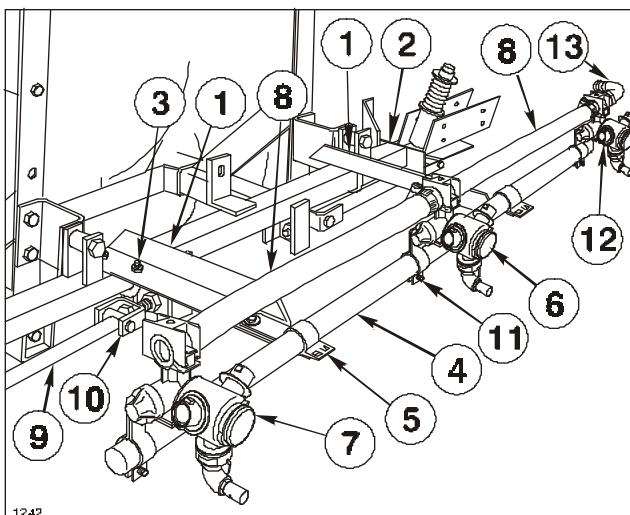

FIG. 14
7. Position the two (2) Center Boom angles on the Main Frame and secure them to the Main Frame tube with (2) square U-bolts, (4) flat washers and hex nuts. See FIG. 14.
8. Center and attach the Center Boom Pipe to the two Center Boom Angles with two (2) clamps, (2) 3/8" x 1" cap screws, flat washers and lock nuts. Once mounted, the Center Boom Pipe should be approx. 20" (508mm) from ground.
9. Loosely attach the Double Barb Turret Body with the Turret Body Clamp in the approximate center of the Center Boom Pipe. For the most uniform spray coverage, position all Nozzles level as shown in FIG. 14.
**11.** Place two Hose Clamps on two 3/4" x 19" Jumper Hoses and connect the two "end" Turret Bodies to the Double Barb Turret Body. Space nozzles 20" apart and tighten fasteners securely. Apply thread sealer and install the 90° 3/4" Hose Barb on the Threaded Turret Body. See FIG. 14.
**12.** Attach the two Strut Assemblies to the two adjustable clevis' found on each side of the Main Frame tube with two (2) 1/2" x 2" clevis pins and two (2) 1/8" x 1" cotter pins. See FIG. 14.
**17.** Adjust the Booms to a level position by adjusting the jam nuts on the adjustable clevis assemblies (See FIG. 14) to the desired position, then tighten the end nuts against the Main Frame plate.